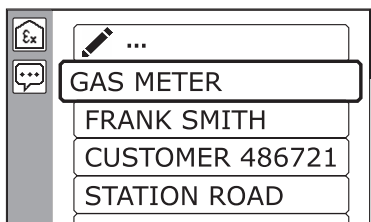

Fig. 20: List of comments
Comments can always be rewritten or selected from a list of the last 10 comments (fig. 20).
5. Confirm the question. The list of comments will appear (fig. 20).